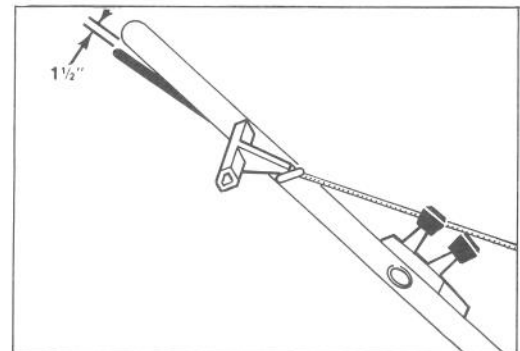

Figure 17
3. CHECK ADJUSTMENT — Mower will begin to self-propel when control bar is about 1-inch from handle (Fig. 17).